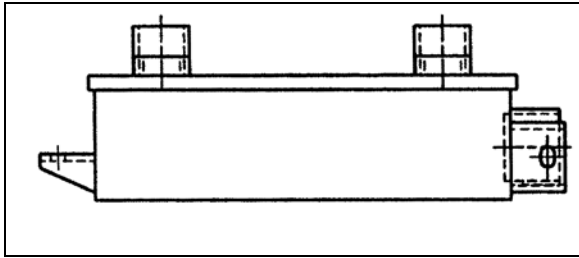

FIGURE 8: COOLER WITH RETARDER (07073)
- 2. Disconnect the two transmission hoses from oil cooler. Cover hose ends and fittings to prevent fluid contamination (Figure 8).